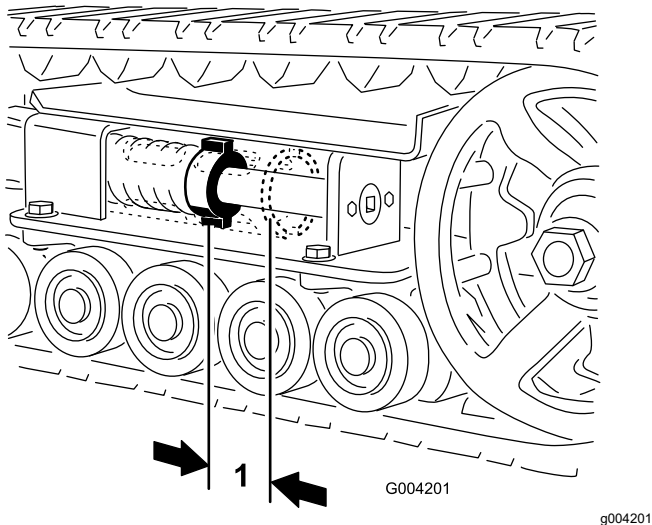

Figure 48
There should be 7 cm (2-3/4 inches) between the tension nut and the back of the tension tube (Figure 48). If not, adjust the track tension using the following procedure:
5. Using a 1/2-inch drive ratchet, turn the tensioning screw counterclockwise until the distance between the tension nut and the back of the tension tube (Figure 48) is 7 cm (2-3/4 inches).
12. Turn the tensioning screw counterclockwise until the distance between the tension nut and the back of the tension tube (Figure 48) is 7 cm (2-3/4 inches).
18. Turn the tensioning screw counterclockwise until the distance between the tension nut and the back of the tension tube (Figure 48) is 7 cm (2-3/4 inches).